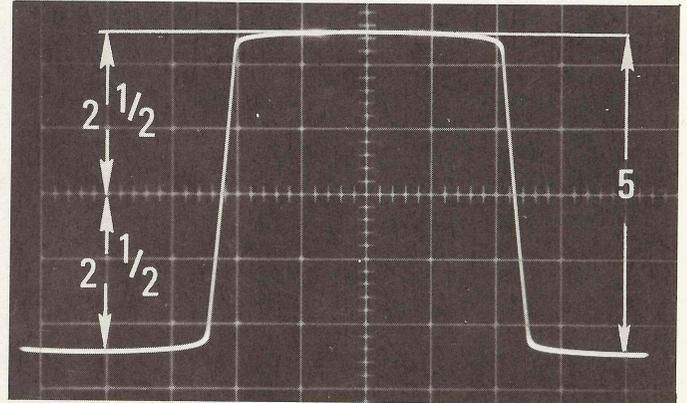

Fig. 18. Centering waveform for rise time measurement.
3. Use the TRACE POSITION and HORIZONTAL POSITION controls to center the waveform on the major vertical grid line, so that it is exactly 2½ divisions above and below the major horizontal grid line, as shown in Fig. 18.